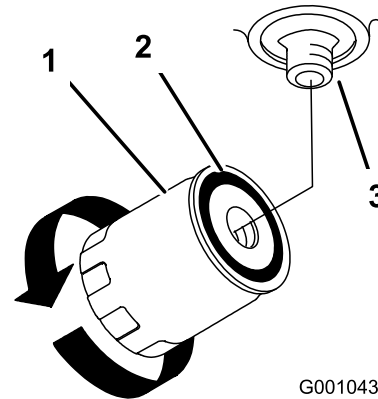

Figure 86
7. Apply a thin coat to the rubber gasket on the replacement filter (Figure 86).